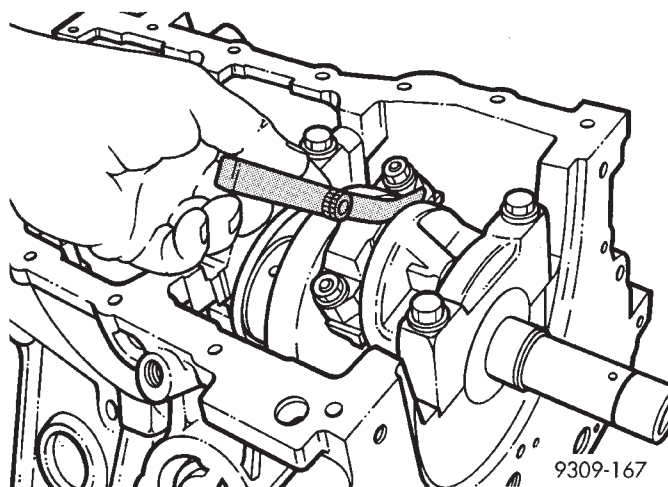

Fig. 18 Checking Connecting Rod Side Clearance
(2) Before installing the nuts the threads should be oiled with engine oil.
(3) Install nuts on each bolt finger tight then alternately torque each nut to assemble the cap properly.
(4) Tighten the nuts to 54 N•m PLUS 1/4 turn (40 ft. lbs. PLUS 1/4 turn).
(5) Using a feeler gauge, check connecting rod side clearance (Fig. 18). Refer to (Fig. 19) for specifications.